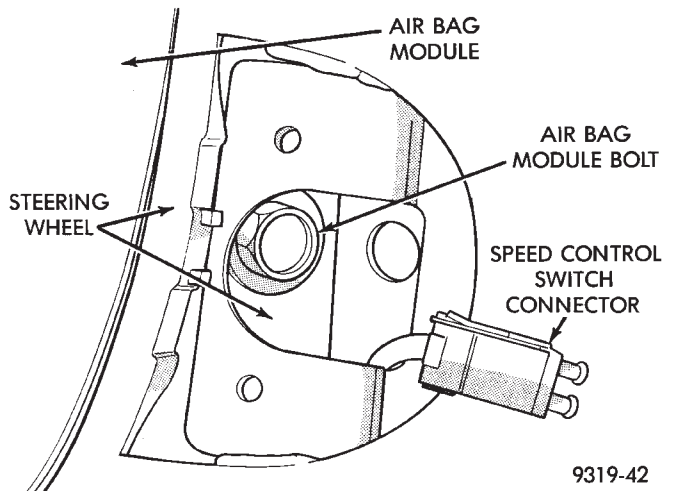

Fig. 4 Air Bag Module Attaching Bolts
(4) Remove the 2 bolts attaching the air bag module to the steering wheel (Fig. 4).